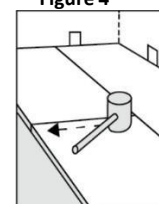

Figure 5
- Place the short end tongue of the second plank into the groove of the first plank. Press down firmly to lock the short end, preferably by lightly tapping on the joint with a rubber mallet (**Figure 5**). Continue in this manner until reaching the final plank in the first row.
- Press down firmly on end joint, preferably tapping with a rubber mallet to fully engage the short end (**Figure 5**).